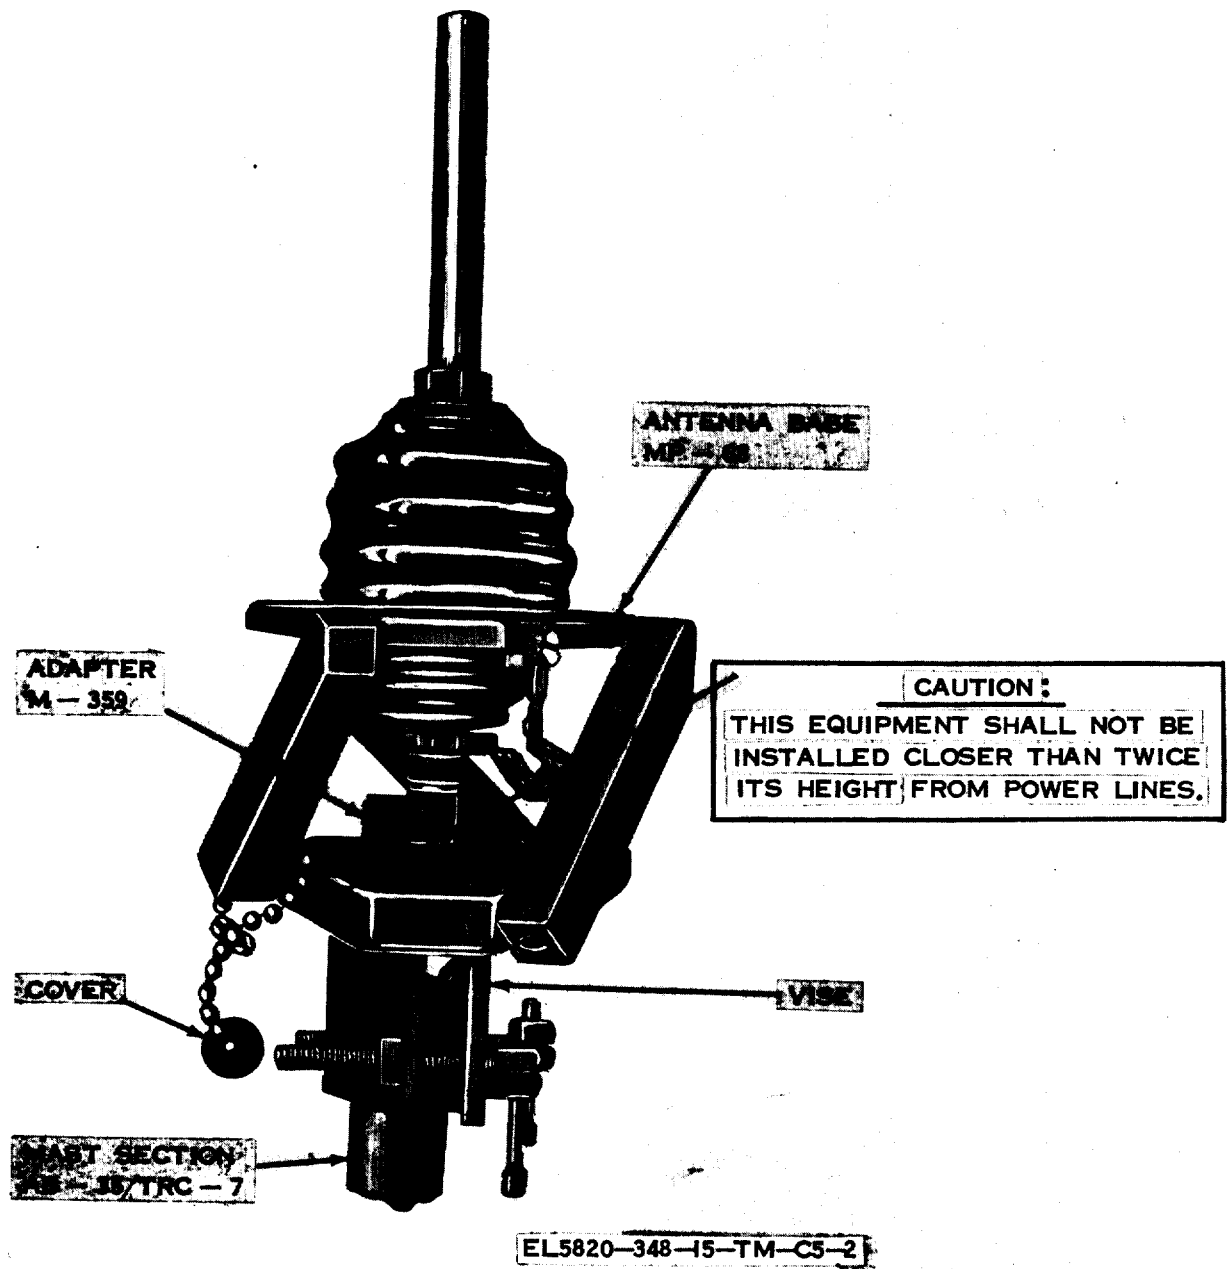

Figure 1-3. Antenna Base MP-68, mounted on mast.
b. Antenna Base MP-68. The MP-68 (fig. 1-3) is comprised of a ceramic feedthrough insulator, sockets for mounting the antenna elements, Adapter M-359, and a vise. The feedthrough insulator allows the vertical radiating antenna element socket to be connected through Adapter M-359, to the center conductor of the CG-107/U. The three ground plane sockets and the outer conductor of the CG-107/U connect to the metal framework of the antenna base. The vise enables the antenna base to be clamped to the top of the supporting